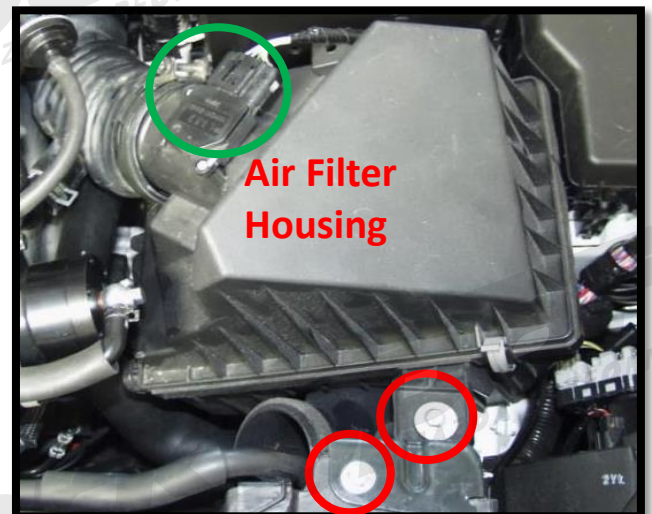

Figure 1c
- c) Unplug the MAF housing sensor located on the air filter housing (green circle in Figure 1c).
- d) Remove the two 10mm bolts on the air filter housing bracket and remove the bracket (shown in red circle in Figure 1c).